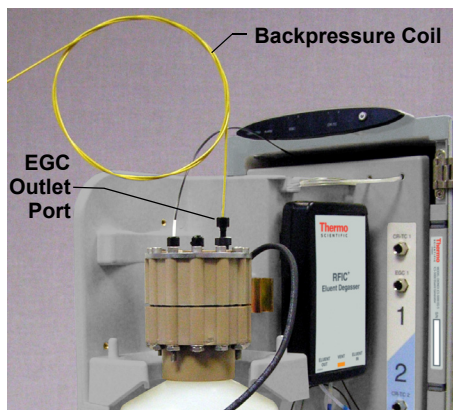

Figure 10-25. *Dionex EGC Outlet Connection for Cartridge Conditioning (Standard-Pressure Analytical Cartridge Shown)*
7. Connect one end of the backpressure coil to the Dionex EGC **OUTLET** port; leave the other end of the coil unconnected (see Figure 10-25). (This is a temporary connection.)